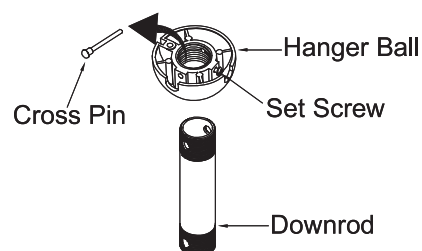

Fig. 5
**Step 1.** Remove the hanger ball from downrod assembly by loosening set screws, removing the cross pin, and sliding ball off the rod. ( Fig. 5)